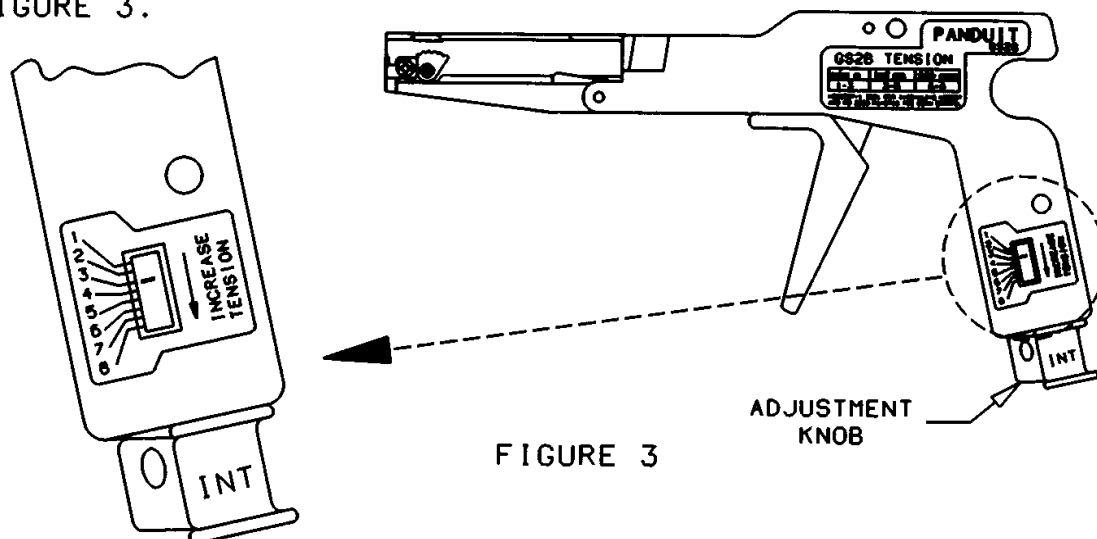

FIGURE 3
6. TURN THE ADJUSTMENT KNOB ON THE GS2B SO THE DASH IN THE TENSION INDICATOR WINDOW IS AT THE "3". AS SHOWN IN FIGURE 3.